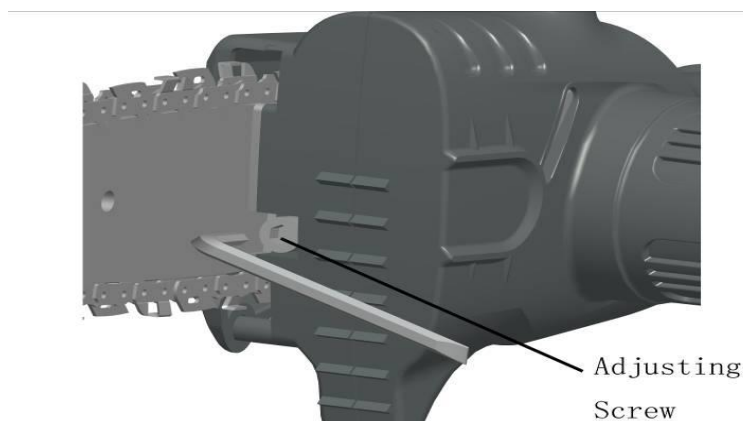

Fig.10
2. Turn adjusting screw on front of power head clockwise until excessive slack is removed from the chain.(See Fig 10)